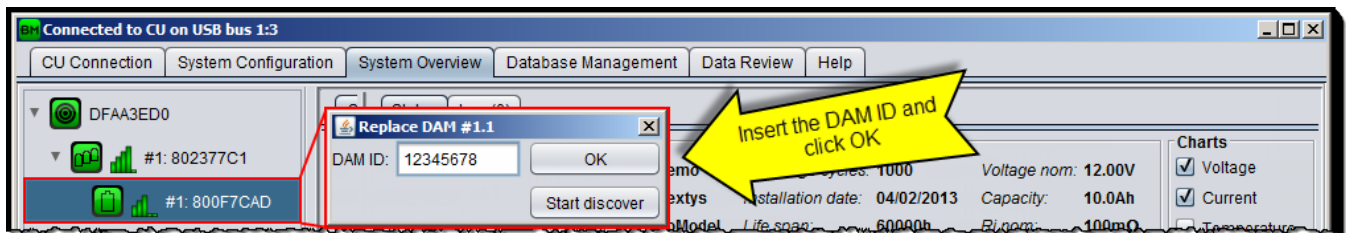

Figure 45: Battery installation date
2. On the opened dialog insert the ID of the new IDAM either automatically (activating the discover option) or manually and click "OK" (see Figure 45) to confirm.
2. On the opened dialog insert the ID of the new IDAM either automatically (activating the discover option) or manually and click “OK” (see Figure 45) to confirm.
2. On the opened dialog insert the installation date (the current date is entered by default) and click “OK” (see Figure 45) to inform the system that a new battery has been installed.